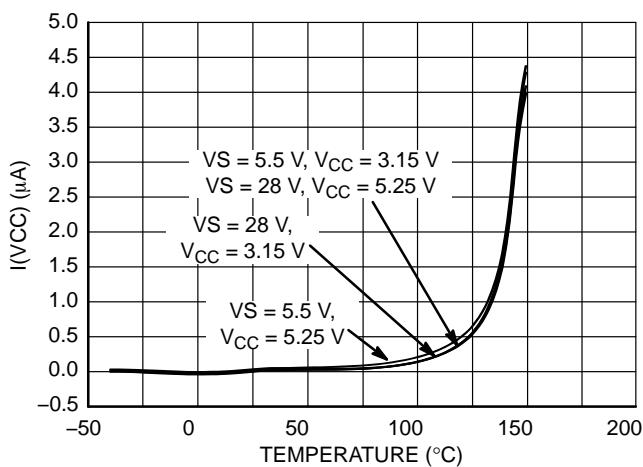

Figure 17. I(VCC) vs. Temperature
7. Refer to Figure 17 for the  $V_{CC}$  standby current behavior.